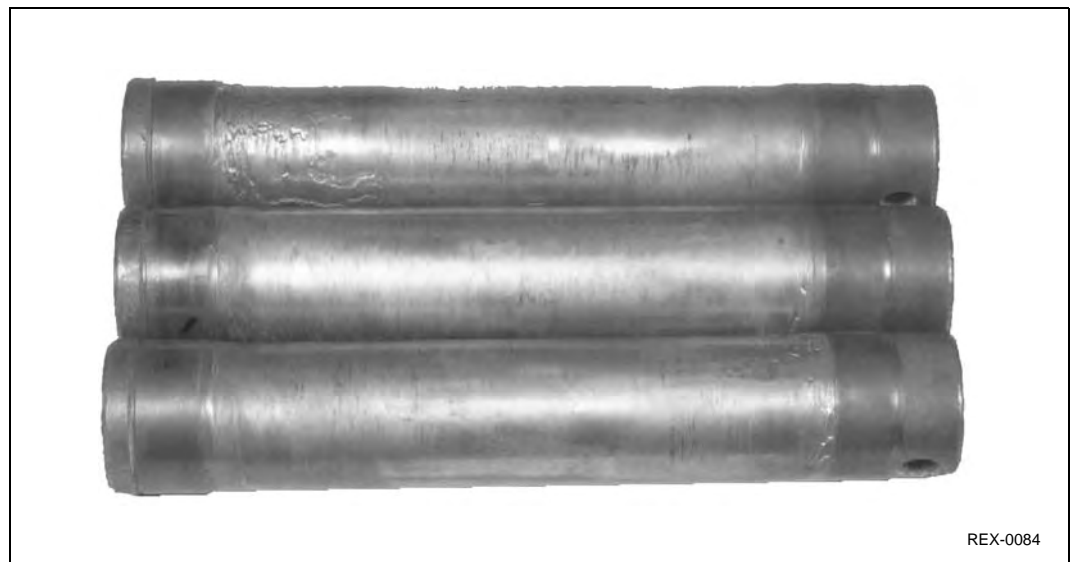
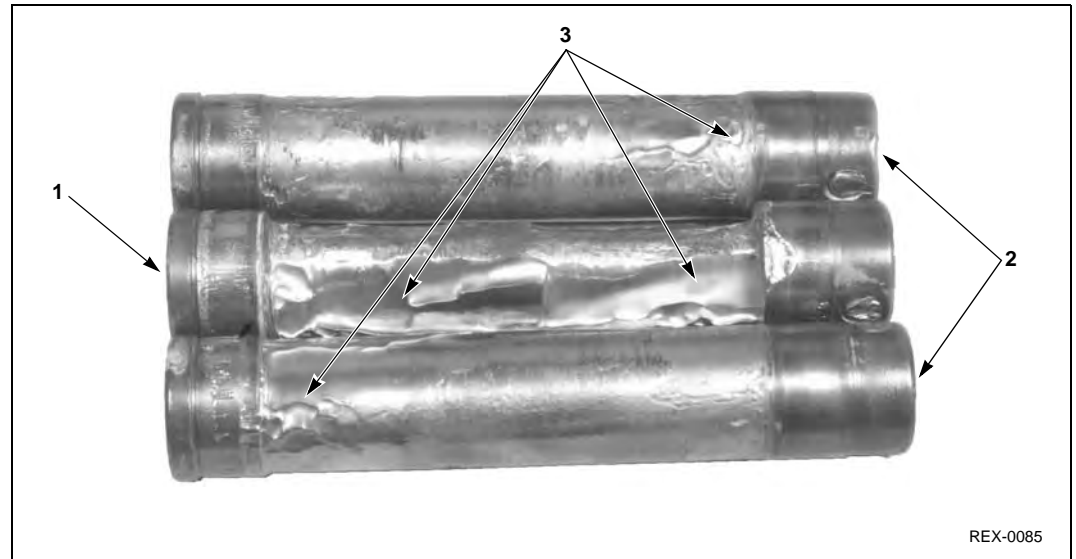

Figure 7-3: Pins With Normal Pin Wear
Figure 7-4:
2. Measure and record the pin’s outside diameter (OD) and bushing’s inside diameter (ID) Measure pins and bushings at heaviest wear areas. See *Figure 7-3, Figure 7-4* and *Chain Wear Analysis, page 7-9*
Normal chain pin wear occurs during articulation of the chain around the traction wheel. A chain pin handling a dry abrasive material will normally wear similar to Figure 7-3.
Dry cavitation is erosion of the chain joint bearing surfaces similar to *Figure 7-4*.